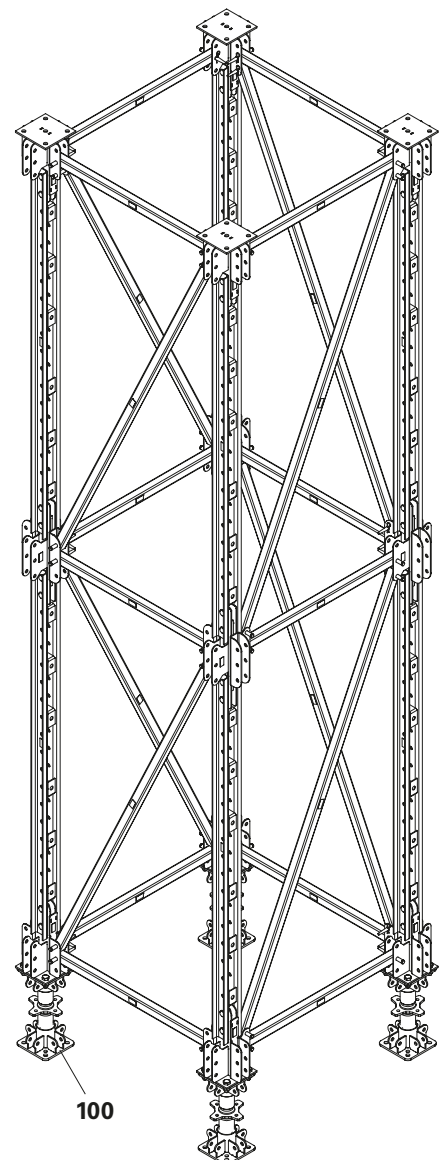

Fig. A1.21
4. Set up the tower so that it is positioned on the Spindles ATS 360-550 (**100**). (Fig. A1.21)